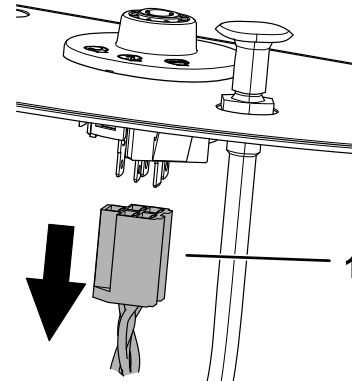

Figure 6
2. Disconnect the wire harness from the key switch (Figure 6).